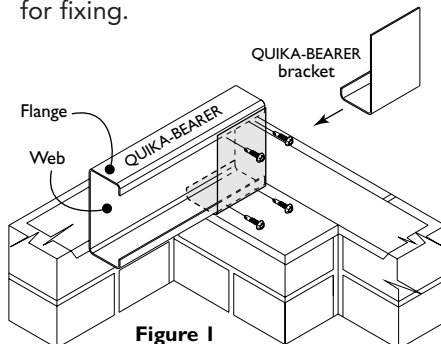

Figure 1
Screw a QUIKA-BEARER bracket at the end of each bearer with at least four screws (Fig 1). It may be necessary to install additional QUIKA-BEARER brackets if a point load is located along a bearer. If the point load is substantial, an additional pier may be needed. Ensure a damp course is fitted according to the appropriate standard.
- External bearers have the web to the outside (Fig 1).